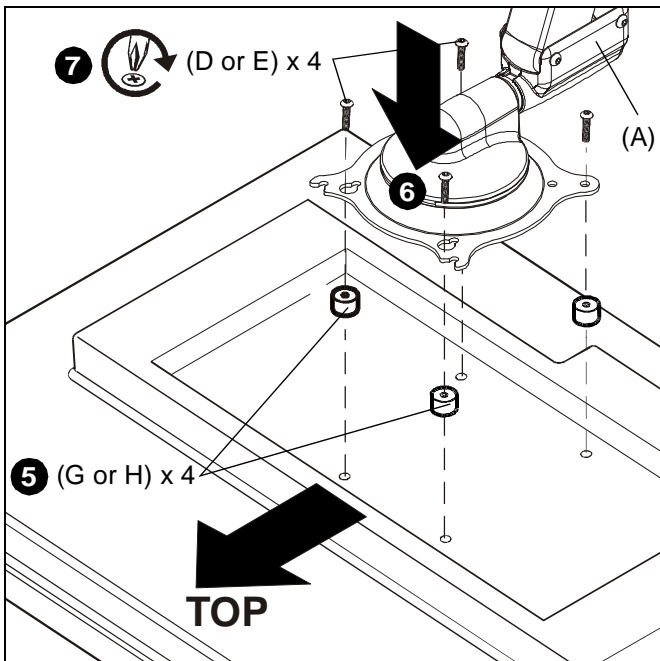

Figure 8
- Place the four spacers (G or H) over each mounting hole on the back of display. (See Figure 8)
- Orient mount so that mounting holes in the Centris cup are aligned with the holes in the spacers (G or H); rotate the Centris cup as required (See Figure 8).
- Install four M4 x 20mm (E) or four M4 x 30mm (D) Phillips head cap screws through the mounting holes in Centris cup, through the spacers (G or H), into display (See Figure 8).